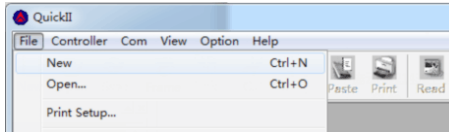

Fig 4.1
1. Click NEW option under the File menu or the  icon in the Tool Bar, as shown in Fig 4.1.